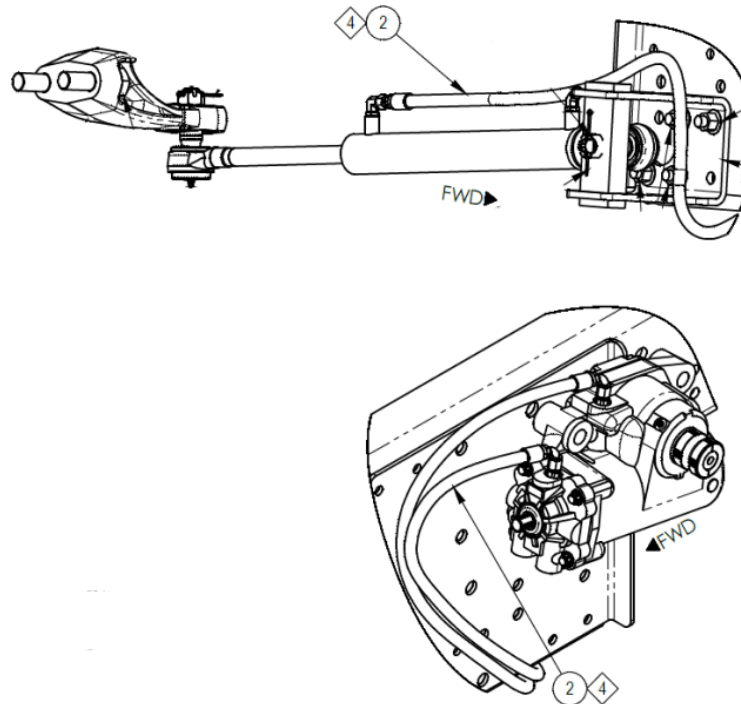

Figure 7.1
- g. Reconnect hydraulic hoses to assist cylinder, noting proper port orientation per labels installed in step 1a. Replace hose plumbed to rear assist port with longer hose to improve routing (06W-06JA06JB108). Also, refer to *Figure 7.1* below for proper hose orientation.